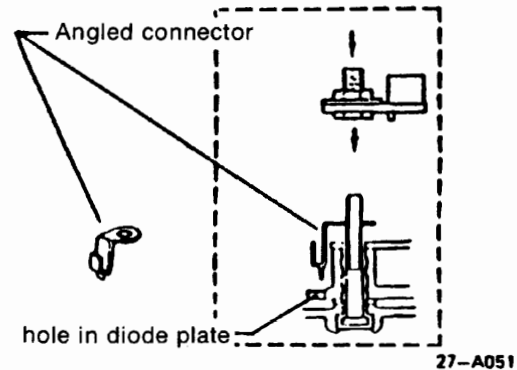

Fig. 2 Angled connector, installation
- install angled connector on terminal B+ of alternator making sure that the bottom tip of connector is inserted in hole of diode plate (Figure 2)